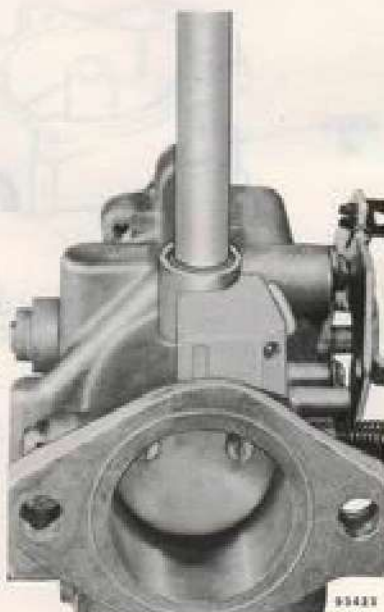

Figure 3-14. Re-Seating or Installing Core Plug
a. If leakage is slight, a smart tap with a mallet and flat end punch in the center of the core plug will normally correct this condition. See Figure 3-14.